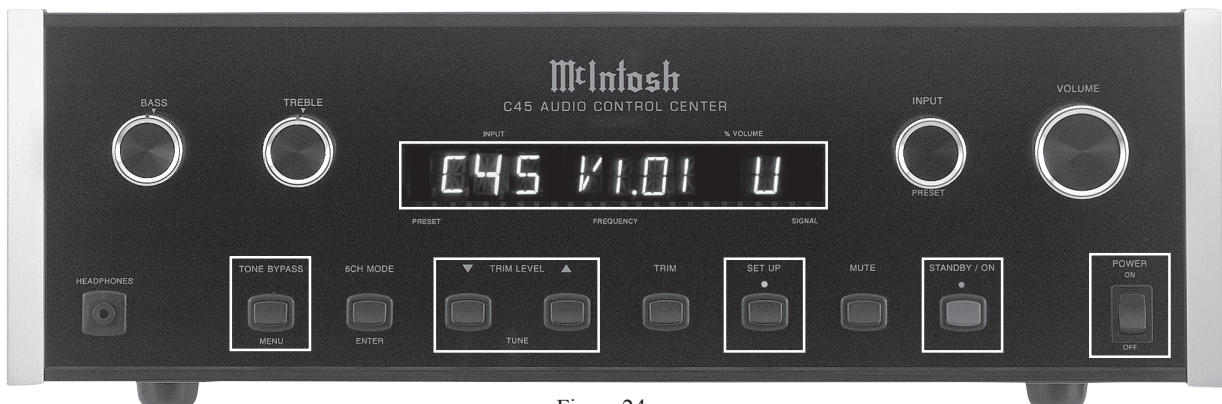

Figure 24
In the following steps the C45 SETUP feature will be accessed to select the country of operation for proper AM and FM reception. The SETUP Mode is indicated on the Front Panel Alpha-numeric Display. Refer to figures 24, 25 and 26.
- Press the MENU (TONE BYPASS) Push-button and the last selected Setup Mode will appear on the Front Panel Alpha-numeric Display. If necessary continue to press the MENU Push-button until "VERSION _._ _" appears on the Display. The character on the far right side of the Firmware Version Number display indicates which country the Tuner is setup for proper operation. Refer to figure 24.